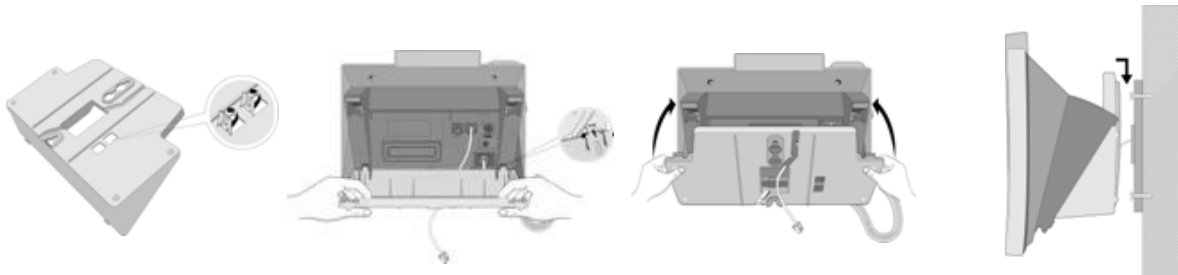

Figure 4.7-6 LIP-7000 Wall Mount Installation
The LIP-24D/DH or LIP 7000 Phones can be mounted on the wall using the appropriate Wall Mount Kit. The Wall Mount Kit is installed as described below and shown in Figure 4.7-6.
- Using the Wall Bracket, mark and drill two (2) 7 mm holes for the plastic wall anchors provided.
- Insert the two (2) anchors into the holes and insert and tighten the 2 screws leaving about 6 mm (¼-inch) exposed. Refer to Figure 4.7-6.
- Insert the Wall Mount handset hook to prevent the handset from slipping when wall mounted. For the LIP-7000 series, the Handset hook is molded as part of the Wall Mount bracket as shown in Figure 4.7-6.